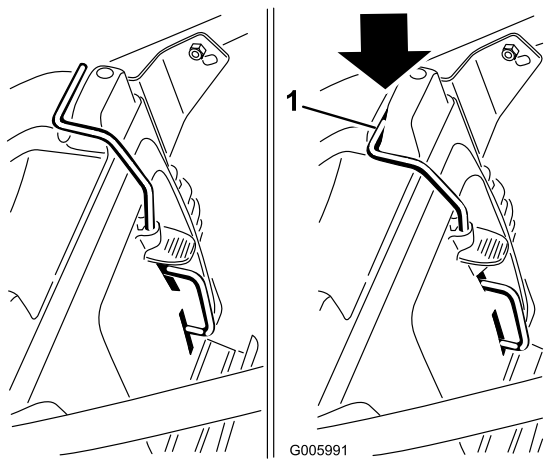

Figure 21
1. Install the mulch plug (Figure 21) or the grass bag (Figure 22) on the mower.